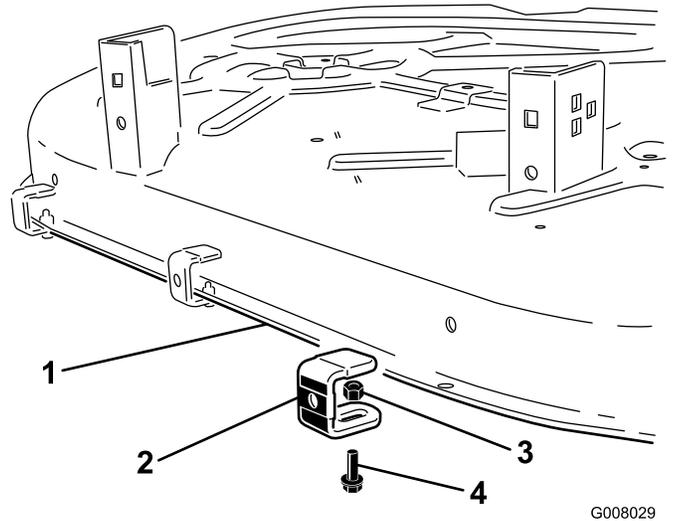

Figure 2
- Install the bracket to the holes shown in (Figure 2) using the three bolts (1/4 x 3/4 inch) and three lock nuts (1/4 inch). Hold the rubber cap of the bracket tightly against the back of the deck and tighten. Use the outside holes on the either end of the back of the deck.